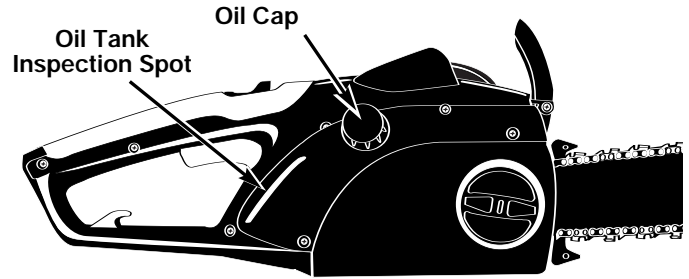

Fig. 3
1. Fill the oil tank with correct chain and bar oil (Fig. 3). Use a funnel, wipe up any spills and make sure no dirt gets into the tank.